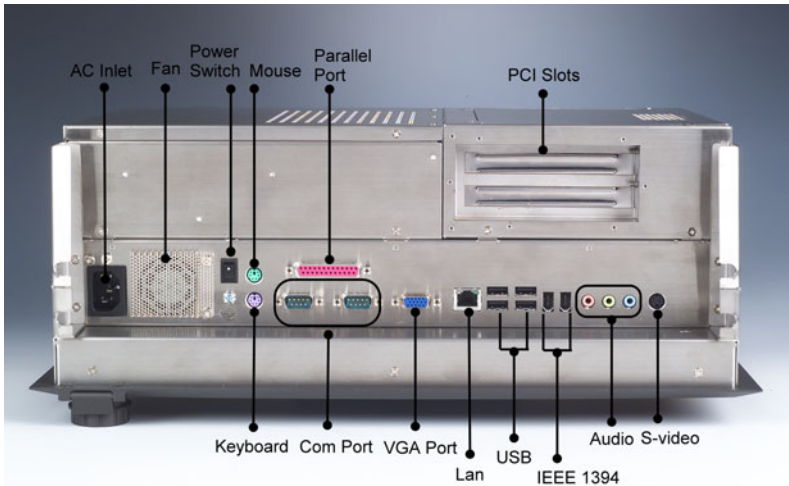

Figure 2.2: Bottom View
2. Attach the interface cable of the serial device to the panel PC's serial port. (See Fig. 2-2.) If necessary, attach the other end of the interface cable to your serial device. Fasten any retaining screws.